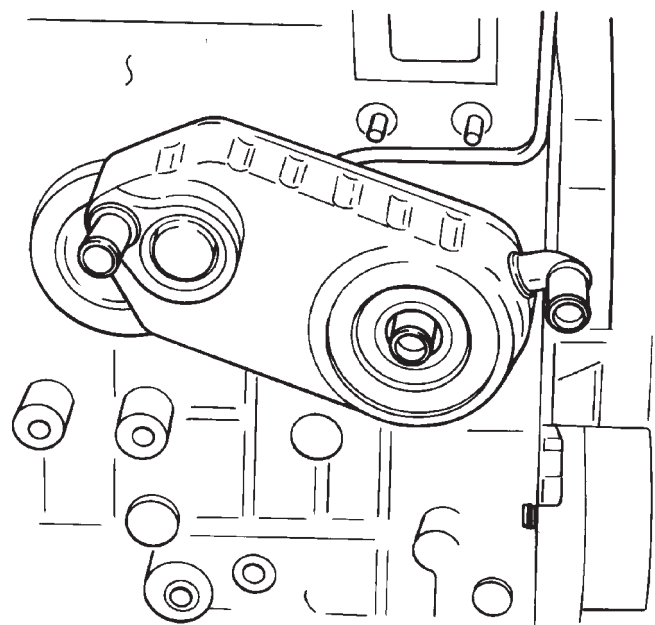

Fig. 90 Oil Cooler
- (4) Remove the oil filter housing and oil cooler (Fig. 90).